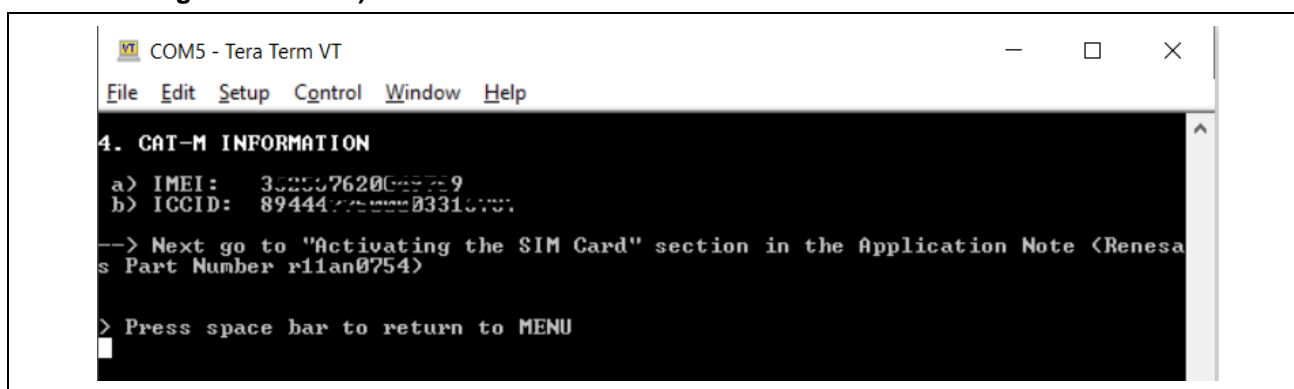

Figure 44. Getting CAT-M Information
8. Enter the **ICCID** value obtained from the **Running the Application project**. See the **ICCID** value in **Figure 44. Getting CAT-M Information**. Fill other fields as needed.